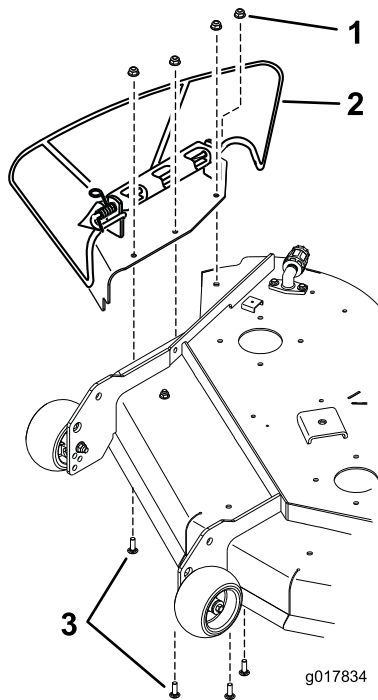

Figure 19
1. Remove the plate assembly that includes the side discharge chute (Figure 19). The baffle will come off at the same time. Save this hardware and plate assembly.